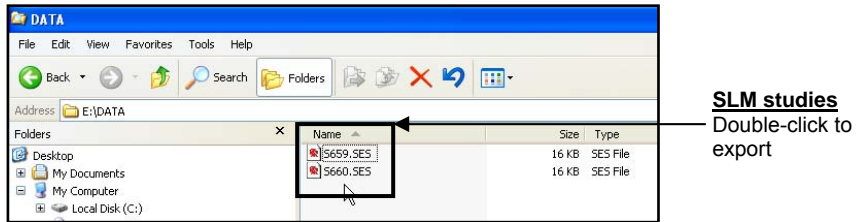

Figure 5-12: example of sound level meter studies.
7. Double-click on the SES file you wish to export to Excel or XML (see Figure 5-12).